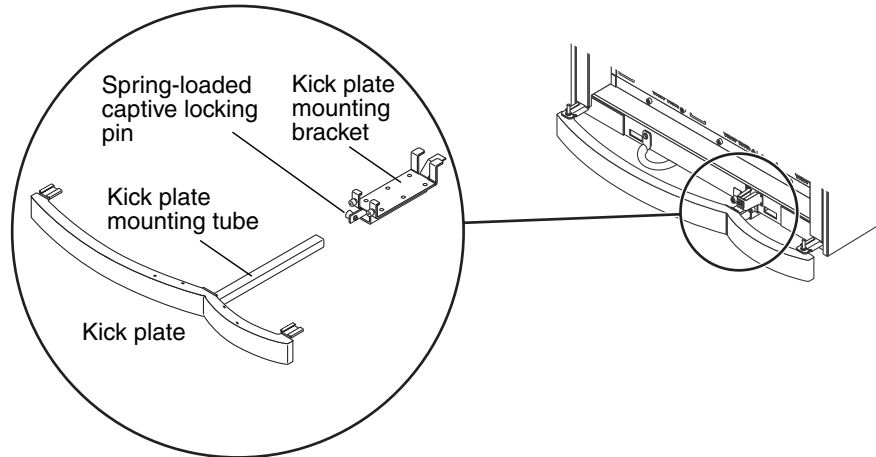

FIGURE 6-2 Cabinet Kick Plate Assembly Removal
- a. Remove the kick plate assembly from both ends of the cabinet before loading, (FIGURE 6-2). Use a pull-turn motion to release the spring-loaded captive locking pin, and pull the kick plate and mounting tube outward from the mounting bracket and set aside until the cabinet has been secured in place on the shipping pallet deck.